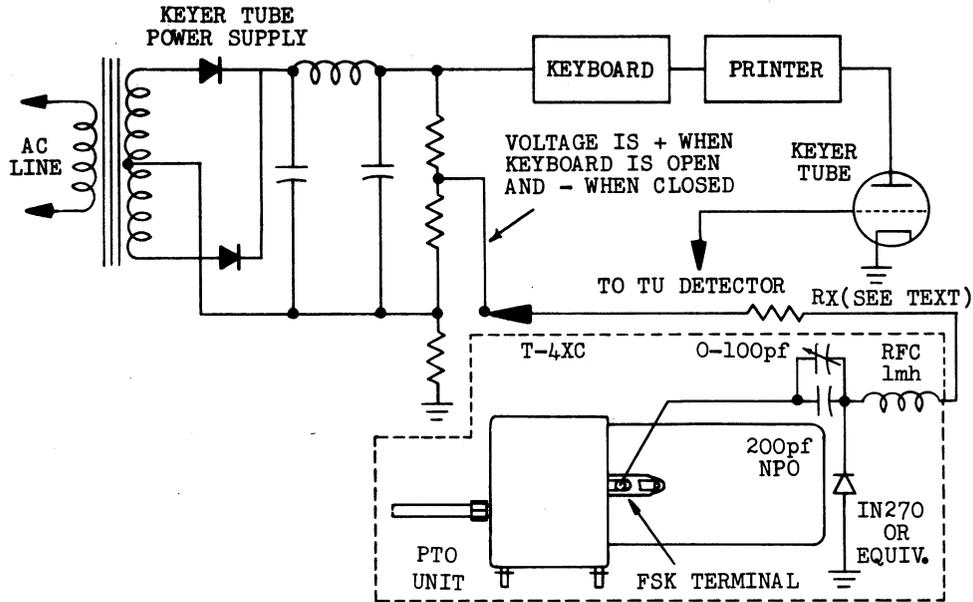

Figure 3-3. FSK Circuit
a. An appropriate shift circuit can be connected to the FSK terminal on the side of the PTO. Several shift circuits have been published which accomplish the shift. Some examples of possible keying circuits are described in an article by Irvin Hoff in the May, 1965, issue of QST. The only modification is that instead of connecting the shift capacitor to the "VFO cathode"; this point is connected to the FSK terminal on the side of the PTO. Refer to figure 3-3. The FSK terminal on the PTO in the T-4XC is a small lug located between the prongs of the mounting clip on the right side of the PTO as viewed from the front panel.
One example of such a shift circuit is shown in figure 3-3. The capacitor values are based on 850 Hz shift and thus smaller values will be needed for narrow shift. The value of RX should be selected to limit the current through the 1N270 shift diode to about 1 mA.